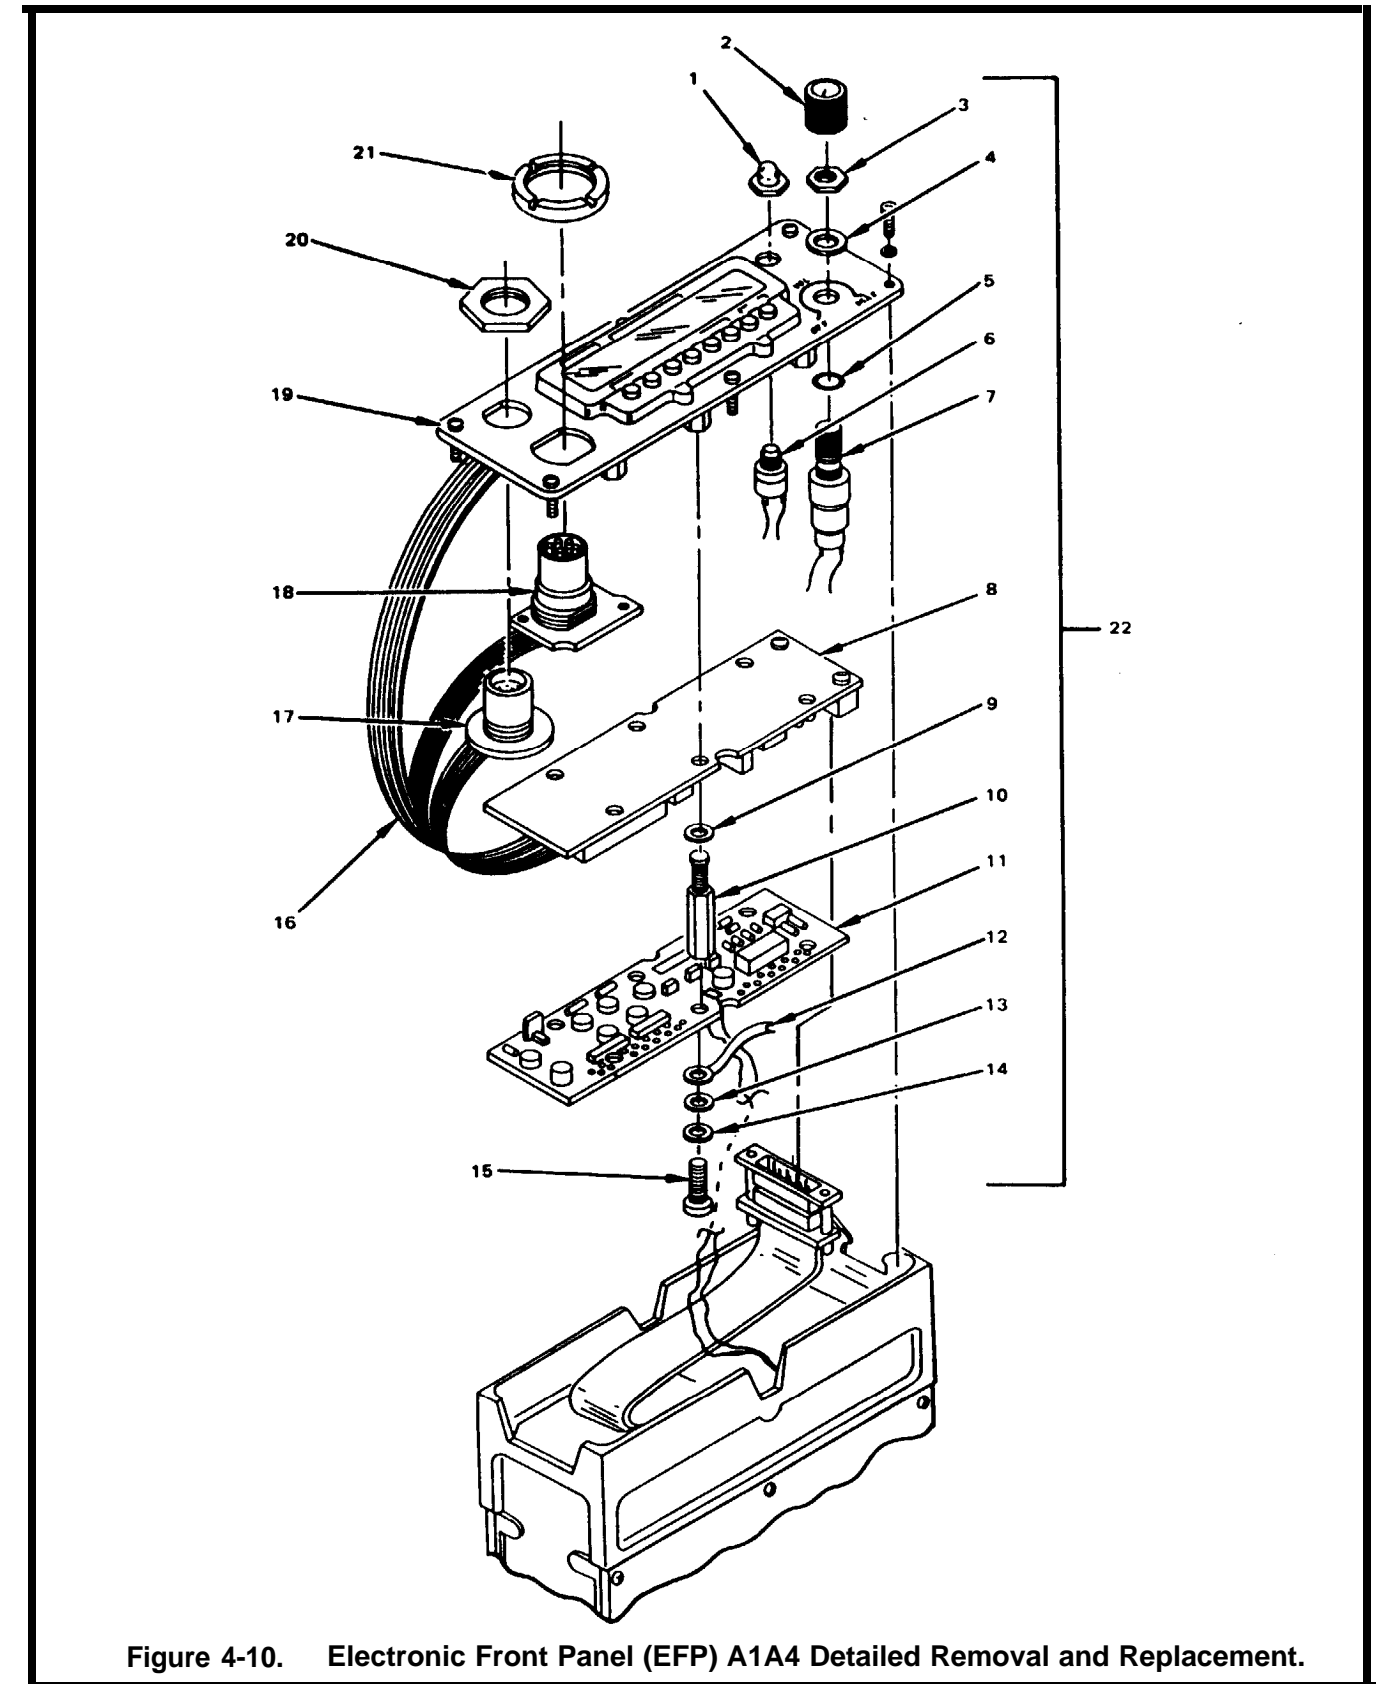

Figure 4-10. Electronic Front Panel (EFP) A1A4 Detailed Removal and Replacement.
(1 of 2), fig 4-10
**(2 of 2), fig 4-10****REPLACEMENT**
1. All connections between **AUDIO** connector plug (18) and **CONT** connector plug (17) and ribbon cables (16) must be soldered.
2. Place **AUDIO** connector plug (18) and **CONT** connector plug (17) in their respective openings on Front Panel Assembly (19) and tighten nuts (20, 21).
3. Replace O-ring (5) on S2 (7), and place S2 and S1 (6) in their respective openings on Front Panel Assembly (19).
4. Replace rubber boot (1) on S1 (6), and flat washer (4), nut (3), and knob (2) on S2 (7).
5. Tighten 6 studs (10) with attaching flat washers (9) on A1A4A1 (8).
6. Place A1A4A2 (11) on top of A1A4A1 (8) and replace 6 screws (15) with lock washers (14), flat washers (13), and ground lugs (12).
7. Replace EFP assembly (22), by performing procedures per Electronic Front Panel (EFP) A1A4 Replacement (page 4-13).